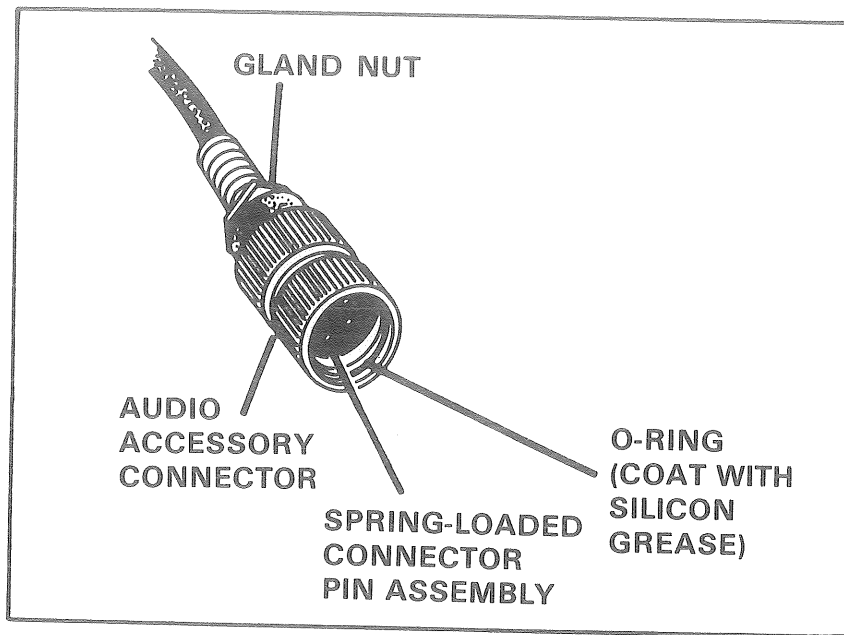

Figure 2. Detail of audio accessory connector.
- a. Put a light coat of silicone grease on the "O" rings in the cable connectors (fig 2).
- a. Tighten gland nut, if provided (fig 2).
- b. Properly position and tighten spring-loaded connector pin assembly (fig 2).
- c. Identify any of the three small keys that are broken (fig 2).